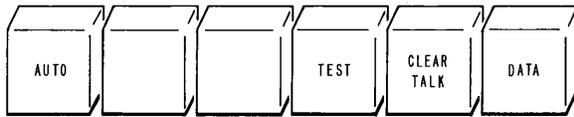

Fig. 3—Data Set 103G-Type—Control Keys and Lamps
**2.05** The data set control keys are shown in Fig. 3, and the function of each is explained in Table B.